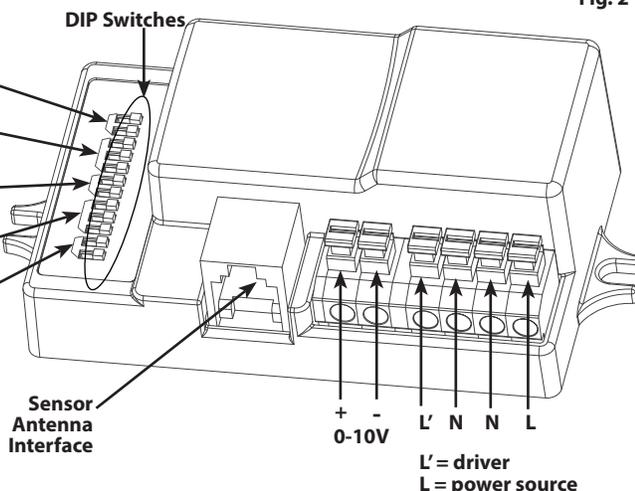

Fig. 2
1. Remove **Door** by loosening (4) **Captive Screws**.
2. Remove **Reflector/ LED Assembly** by loosening (4) **Reflector/ LED Screws**.
4. Knock out appropriate **Slots** as marked in Fig. 2, by loosening **Screws (2)** on **Access Plate** and secure to junction box (*not supplied*). Check gasket is fully sealed.
5. Mount **Ceiling Mounting Box** to ceiling by drilling out (4) **Drill Locations** as marked in Fig. 2. Use the appropriate mounting hardware for the mounting surface. Be sure gasket is properly seated.
6. Feed fixture wires through the **Access Plate** or through one of the **Plugs (4)** to make electrical splices in junction box. Use appropriate UL approved wire connectors as required by code to complete wiring.
Switch positions referred to as R for right position and L for left position when looking at sensor in orientation shown in Fig. 2, in which all switches are R.